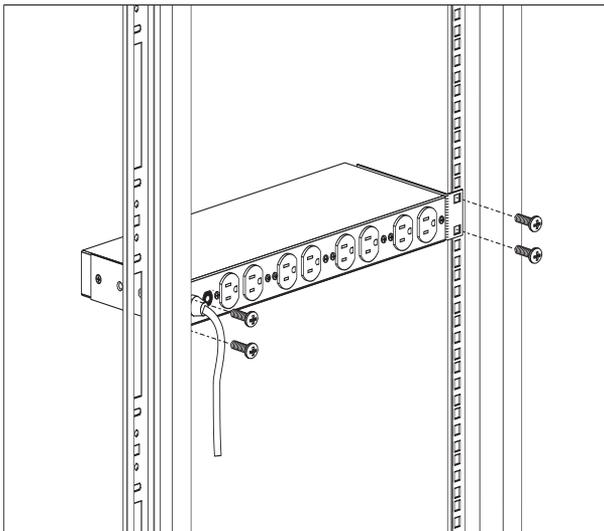

Figure 5: Mounting MasterSwitch in a NetShelter Cabinet
- 3 Mount the MasterSwitch into the NetShelter cabinet (Figure 5) with four caged nuts and machine screws (not supplied with the MasterSwitch). If the MasterSwitch is being installed in a cabinet other than a NetShelter, use hardware that is appropriate for the cabinet.